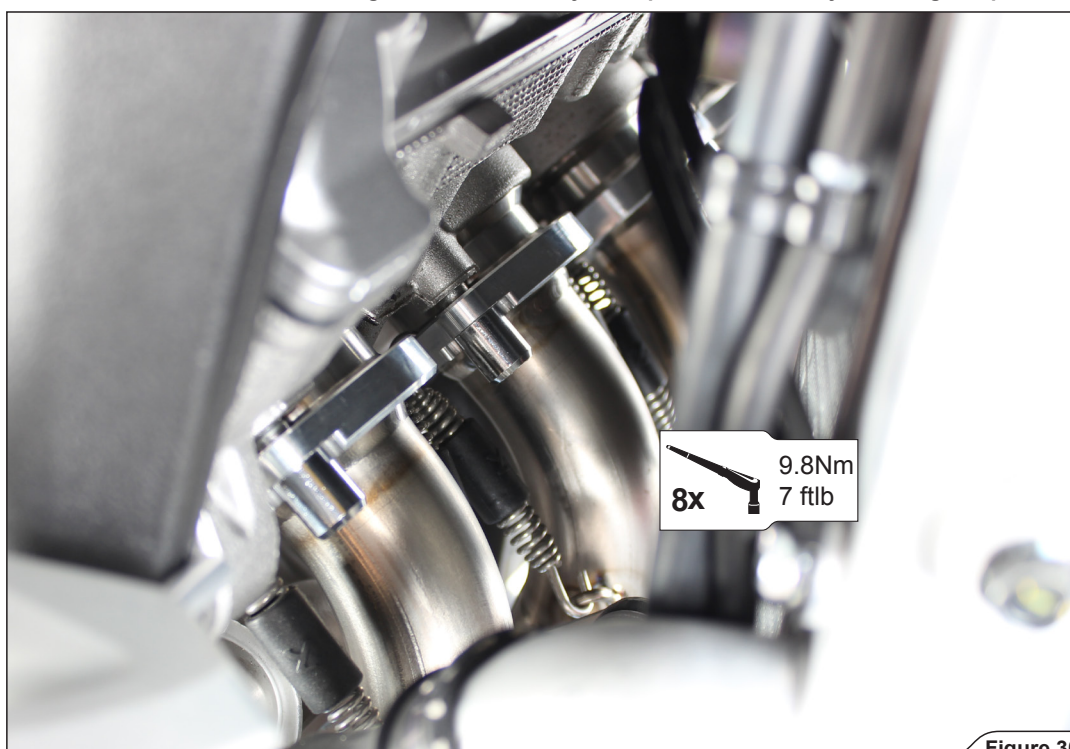

Figure 30
8. Insert the headers into the sleeves, attach the springs, install the link-pipe bracket using nut from Akrapović installation kit and stock bolt and washer. Attach lambda sensors and tighten the flanges, bracket bolt and both lambda sensors to specified torques (Figure 30, 31, 32).